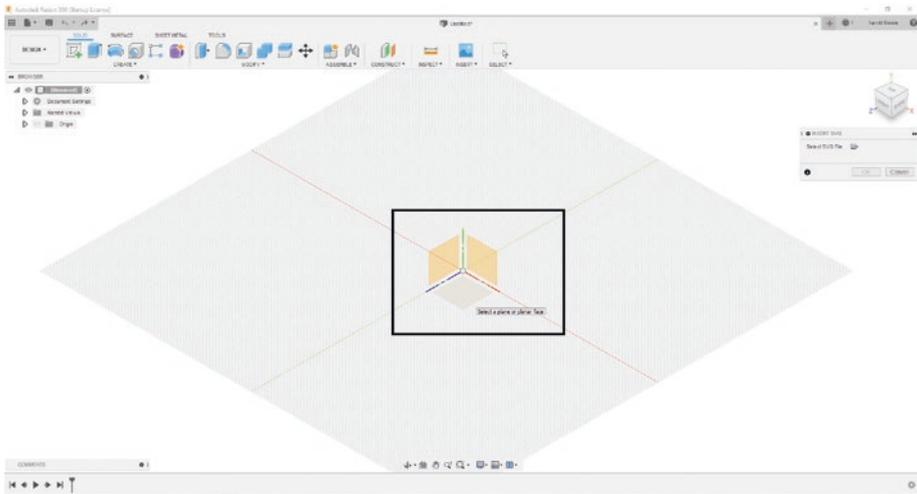

Figure 3-35. Select plane
4. Select the plane that you want the SVG image to be placed on to. See Figure 3-35.